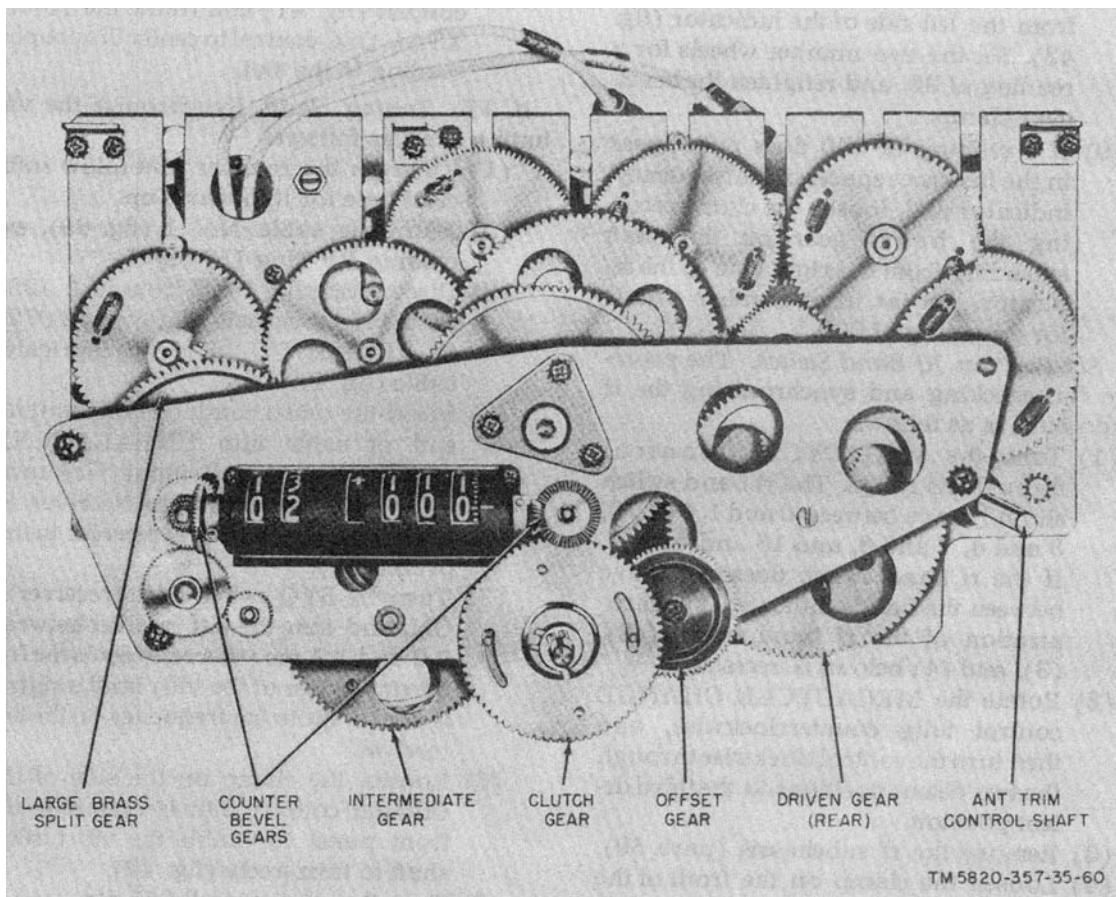
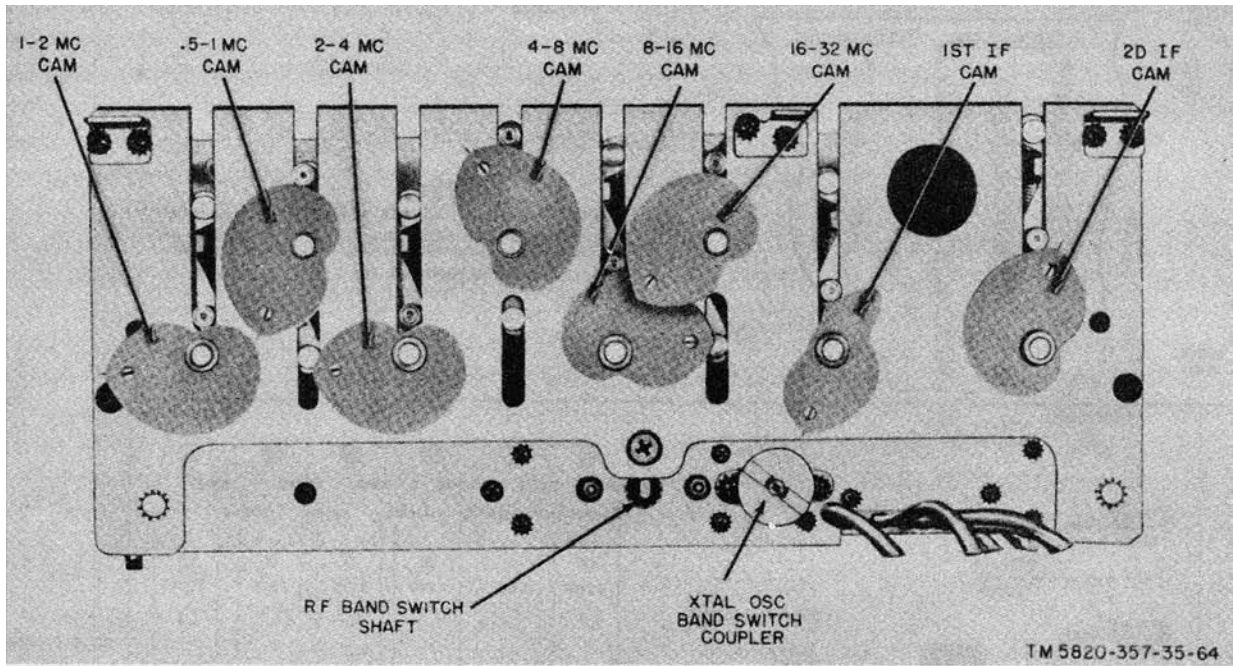

Figure 43. Location of gears.
Figure 44. Location of cams.
### 73. Mechanical and Electrical Synchronization (fig. 43 and 44)
*a. Camshafts.* The camshafts are synchronized properly if the index lines etched on the rear plate of the rf subchassis bisect the holes in each of the rear cams (fig. 44) when the frequency-indicator reading is 02 000. To synchronize the rf subchassis when it is removed from the cabinet, rotate the large brass split gear and the clutch gear (fig. 43) to positions where the frequency-indicator reading is 02 000. If the index lines do not bisect the holes, follow the procedure out-lined in (2) through (7) below. Before replacing the rf subchassis (para 59 above to positions where), rotate the two gears mentioned above to positions where the first two digits on the frequency indicator indicate halfway between 99 and 00, and the last three digits read -972. (Note the minus sign.) When the rf subchassis is in the cabinet, proceed as follows:
- (1) Check the 10-turn stop by rotating the MEGACYCLE CHANGE and the KILOCYCLE CHANGE controls fully counterclockwise. The frequency indicator should read halfway between 99 and 00 (off detent position) and -972. (Note the minus sign.) Check the reading on the megacycle
portion of the frequency indicator. If it does not agree, loosen the crystal-oscillator band switch position indicator to see that it agrees with the reading on the Oldham coupler clamp (fig.41) on the crystal oscillator and turn the SYNC XTAL OSC control on the rear panel (TM 11-5820-357-10) until the two readings agree. Tighten the clamp on the Oldham coupler. Check the synchronization of each band by noting the position of the cam rollers at the end frequencies of each band. The position of the 1- to 2-mc band cam shown in figure 44 represents the correct position for the low end of the band. The position of the second if. cam shown in figure 44 represents the correct position for the high end of the band (the last three digits of the frequency indicator should read 999). If all the cams are out of synchronization, set the 8- to 16-mc cam first.
- (2) If the 1- to 2-mc camshaft (fig. 44) is not positioned properly, loosen the clamp on the front of the shaft and rotate the rear cam until the index line bisects the hole in the cam. Tighten the clamp.
- (3) Position the camshaft for .5- to 1-mc slug rack (fig. 44), if necessary, in the same manner as described in (2) above.
- (4) Check the position of the 8-to 16-mc camshaft. If it is not aligned properly, loosen the clamp on the front of the 2- to 4-mc shaft to position the 8- to 16- mc cam, since the gear for the 8- to 16-mc shaft is pinned through the shaft. After positioning the 8-to 16-mc cam, position the 2- to 4-mc cam while holding the 8- to 16-mc cam in place; then tighten the clamp on the 2- to 4-mc shaft.
- (5) necessary, position the 4- to 8-mc and 16- to 32-mc cams (fig. 44) in the same manner as described in (2) above.
- (6) To position the first variable if. cam (fig. 44), loosen the clamp nearest the front plate of the rf subchassis on the crystal-oscillator band switch shaft. Adjust the position of the cam; then tighten the clamp.
- (7) Position second variable if. cam (fig. 44), if necessary, in the same manner as for the 1- to 2-, .5- to 1-, 4- to 8-, and 16- to 32-mc cams.
- (8) Check the reading of the frequency indicator. If a reading of 02 is not centered within the two left-hand spaces of the indicator, loosen the clamp on the bevel gear on the shaft extending from the left side of the indicator (fig. 43). Set the two number wheels for a reading of 02, and retighten the bevel-gear clamp.
- (9) If a reading of 000 does not appear in the last three spaces of the frequency-indicator dial, loosen the clamp securing the bevel gear on the shaft extending from the right side of the indicator. Set the three number wheels for a reading of 000.
contacts are centered at position 3 by inserting long-nosed pliers in the hole at the rear of the subchassis (fig. 44) and turning the shaft. Positions of the switch contacts are shown in the schematic diagram (fig. 74). Tighten the clamp after adjustment.